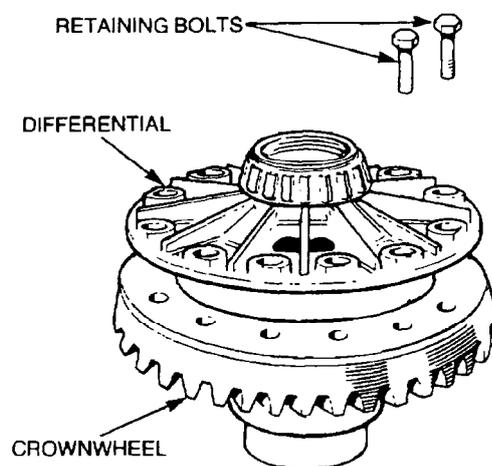

Figure 210 Removing the Crown wheel
- b. Remove the retaining bolts and separate the crown wheel from the differential (Figure 210).